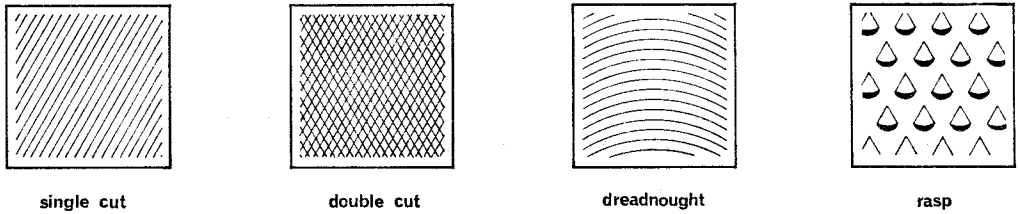

Fig. 25 File cuts
28. **Cut.** The common cuts are shown in Fig. 25.